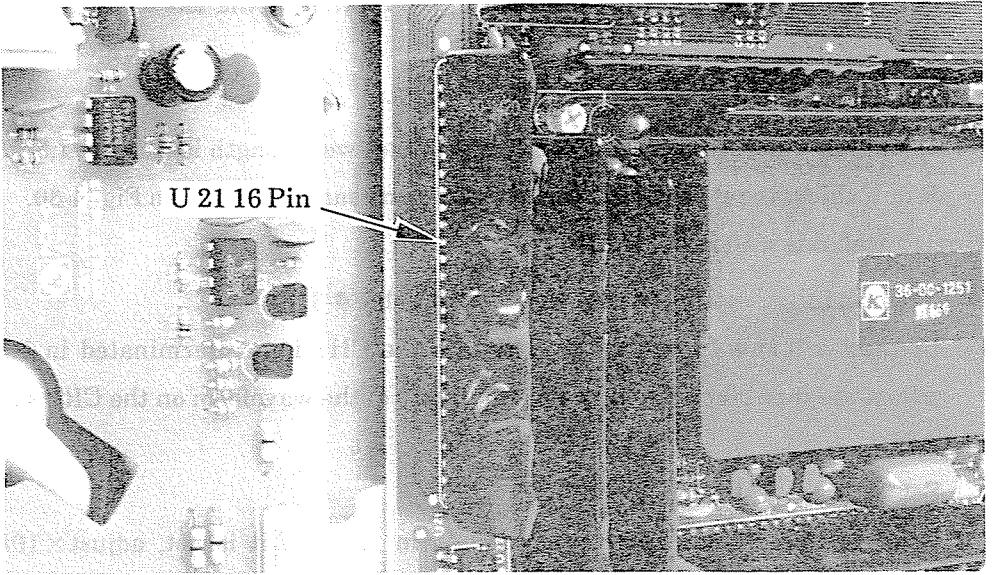

Fig. 4-31 Connection position of oscilloscope (pin 16 of U21)
- (1) Perform initial setting in accordance with Table 4-3.
- (2) Apply 1MHz fast rise signal to the input of CH1 (terminated in 50ohms), and adjust the signal output to 6 DIV.
- (3) Connect the oscilloscope to pin 16 of U21 on board A4 shown in Fig. 4-31, and adjust the deflection factor of the oscilloscope so that the amplitude of the waveform on the CRT screen is  $5 \text{ DIV} \pm 0.2 \text{ DIV}$ .